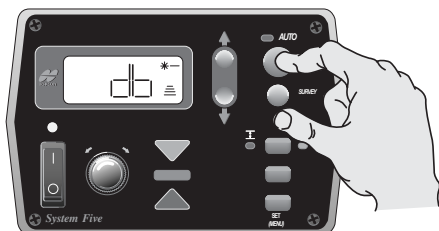

Figure 29. Select Elevation Deadband
1. From the Performance Menu, press the Auto button to select Elevation Deadband (Figure 29).